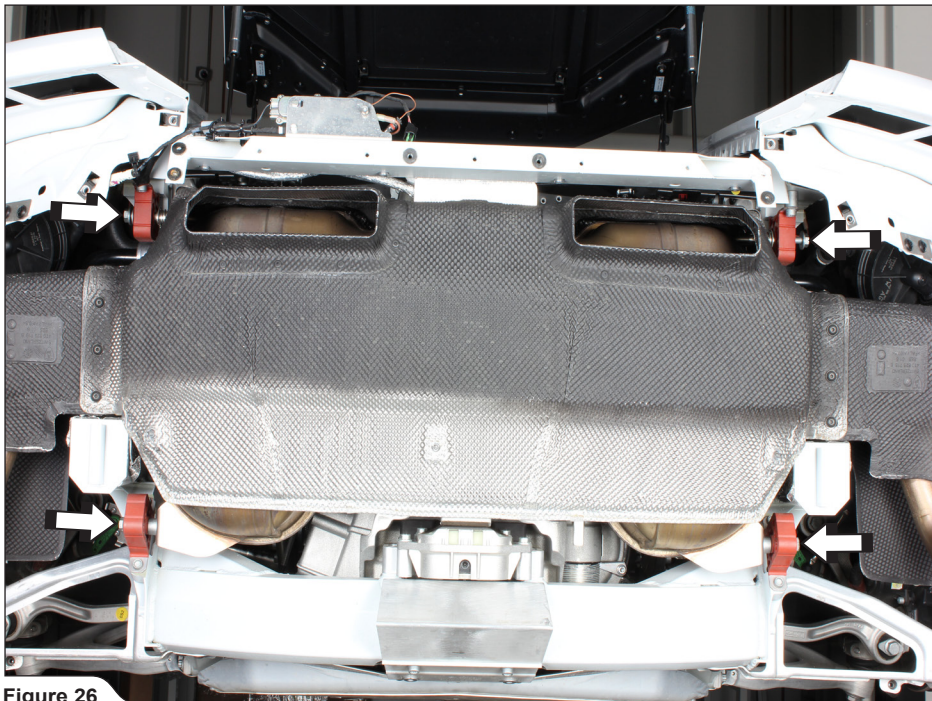

Figure 26
18. Unscrew the marked bolts on both sides of the muffler and carefully remove the muffler off the vehicle (**Figure 26**).